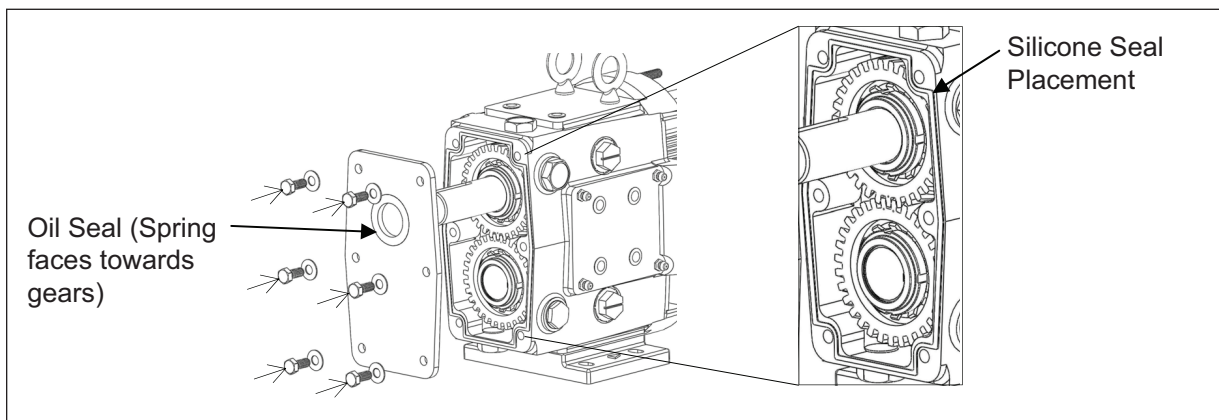

Figure 47. Installing Gear Casing Back Cover
- Apply a light film of lubricant to the inside and outside diameters of the gear case cover oil seal. Using a press, install the oil seal into the back cover so that it is flush with the outside of the back cover and the spring is facing the gears. Apply a silicone sealant to the edges on the back of the gear case making sure there are no gaps. Slide the back cover onto the gear case, making sure that the shaft is centered on the oil seal, and secure it with the retaining bolts (Figure 47). It is important not to cut the oil seal on the shaft keyway; tape may be used to cover any sharp edges on the shaft. Install the oil plugs and fill the gear case with the recommended amount of oil using Table 3 on page 18.